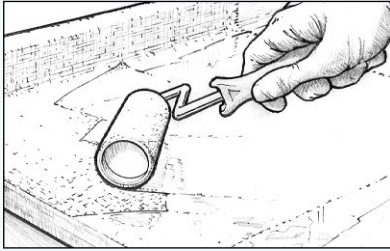

Figure 28 Coat the surface to fill the weave before the wet-out becomes tack free.
9. Coat the surface to fill the weave before the wet-out becomes tack free (*Figure 28*). Follow the procedures for final coating in the next section. It will take